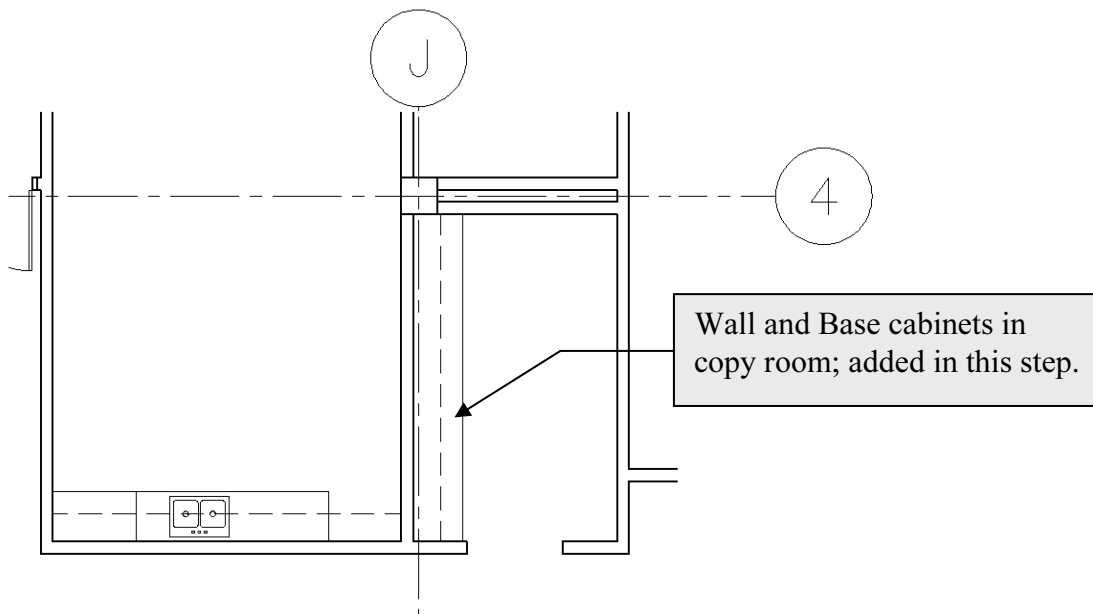

Figure 3-2.3 Drawing the copy room casework
4. Draw the cabinets shown in Figure 3-2.3, *plus*: